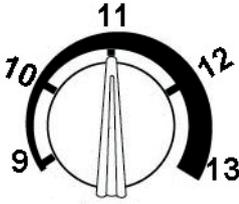

FIG. 1B
- Striking the arc, the observing window darkens immediately. At this moment, according to the technical requirement, you can adjust the darkness knob (Fig. 1B) in the direction as shown by the arrow to select the optimum darkness. Refer to the “Recommended Shade Numbers” table.